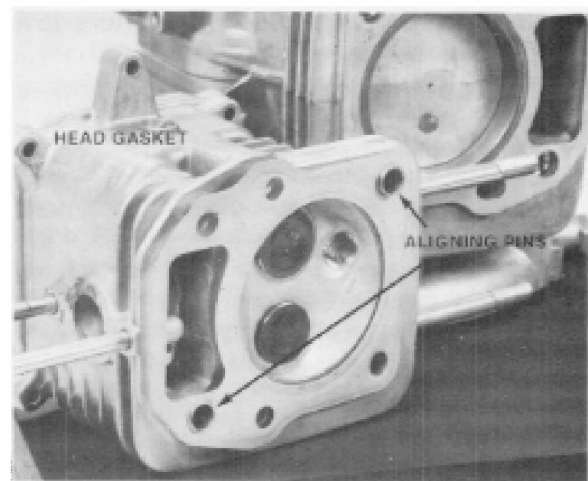

Figure 4-13
4. Pull the head away from the engine block. Do not lose the two aligning pins. The head gasket will fit only one way over these pins. See Fig. 4-13.